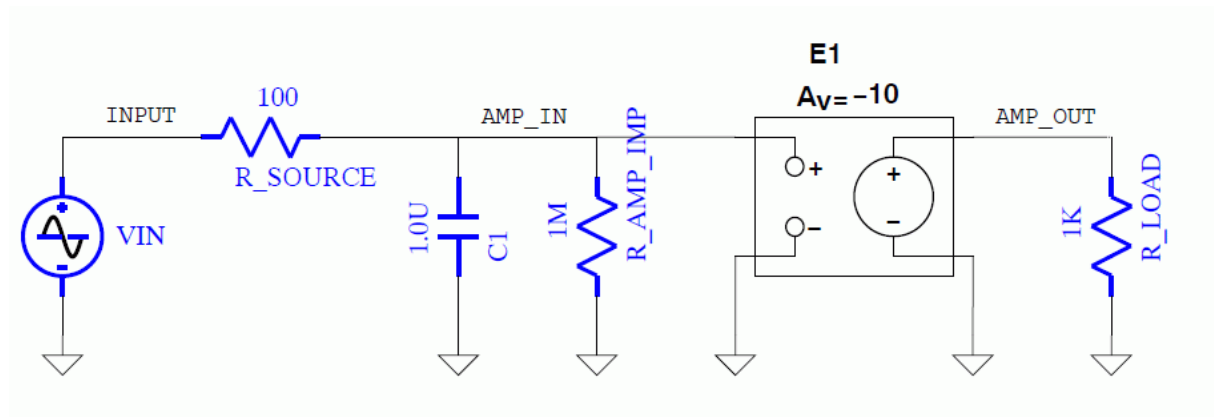

Figure 25.1: Example Circuit 1
circuit device, and the definition of the significant parameters for each device. For example, the circuit description below shows the equivalent input file for the circuit shown in Figure 25.1.
**Subcircuits** In some applications, describing a device by embedding the required elements in the main circuit file, as is done for the amplifier in Figure 25.1, is not desirable. A hierarchical approach may be taken by using subcircuits. An example of a subcircuit statement is shown in the second circuit file: